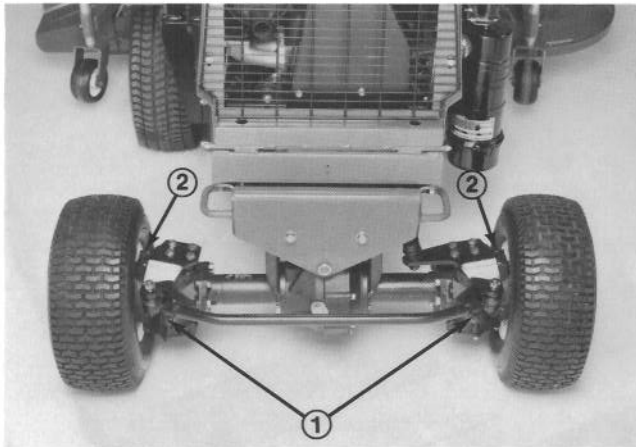

Figure 22
2. Remove a check plug from each end of axle and make sure lubricant is up to bottom of hole. If level is low, remove one of the mounting bolts above each end plug and add enough lubricant to bring the level up to the bottom of the hole (Fig. 22).
3. Remove plug in center of axle and check level. If level is low, add enough lubricant to bring the level up to the bottom of the hole (Fig. 22).